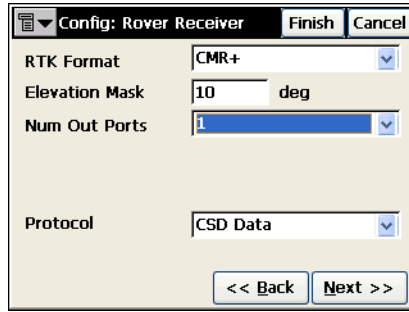

Figure 3-12. Config: Rover Receiver
5. To set a number of ports for output of NMEA messages, select the *Output Port* option from the bitmap menu in the upper left corner of the screen (Figure 3-12 on page 3-10).
- To use the *CSD* form of data transmission for receiving RTK corrections through a cellular phone used as modem, select the *RTK protocol* option from the bitmap menu in the upper left corner of the screen (Figure 3-12).